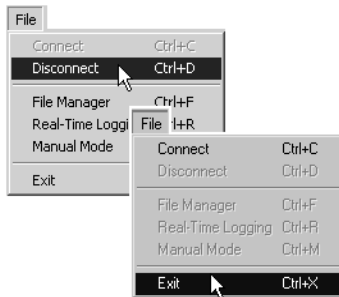

Figure 2-12. Click Disconnect then Exit
8. Click on **File->Disconnect**, then **File->Exit** to quit PC-CDU (Figure 2-12).